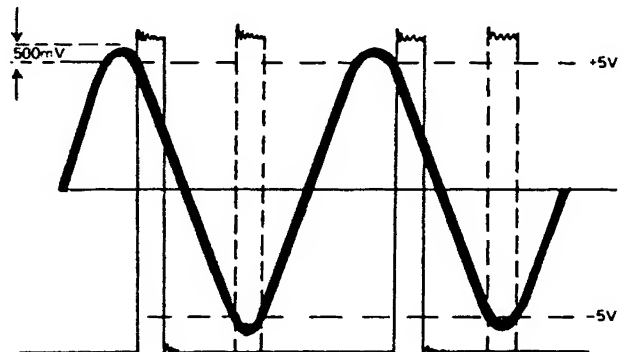

Figure 4-15
5. Repeat step 4 with SLOPE set to - and check trigger level variation as shown in Figure 4-15.